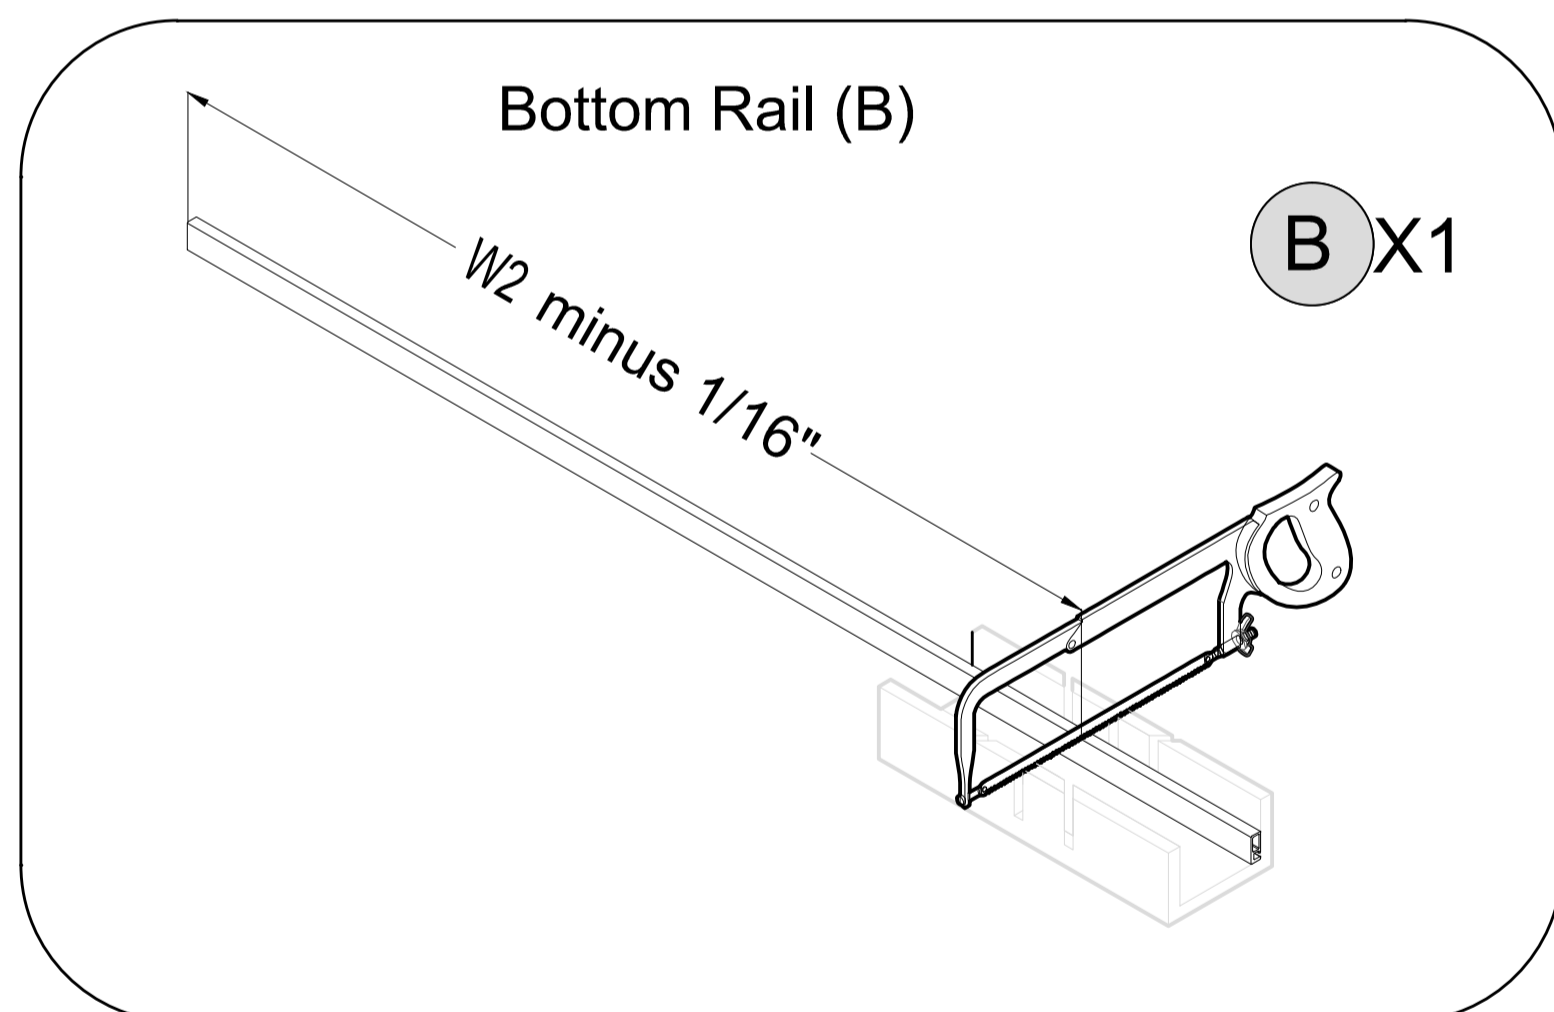

Fig 2
2. Position the **Templates(M)** on the wall(19/32" inside).Please note one end with 2 holes faces up.Mark the location of the holes as Fig.2;